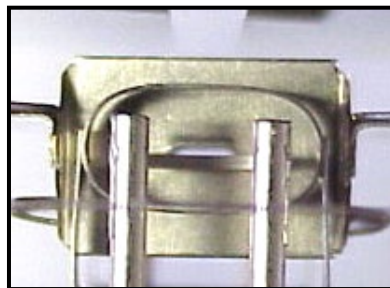

Fig. 5.1
4. Replace and adjust the filament so top edge of the filament is in the center of the slot. Refer to figure 5.1.